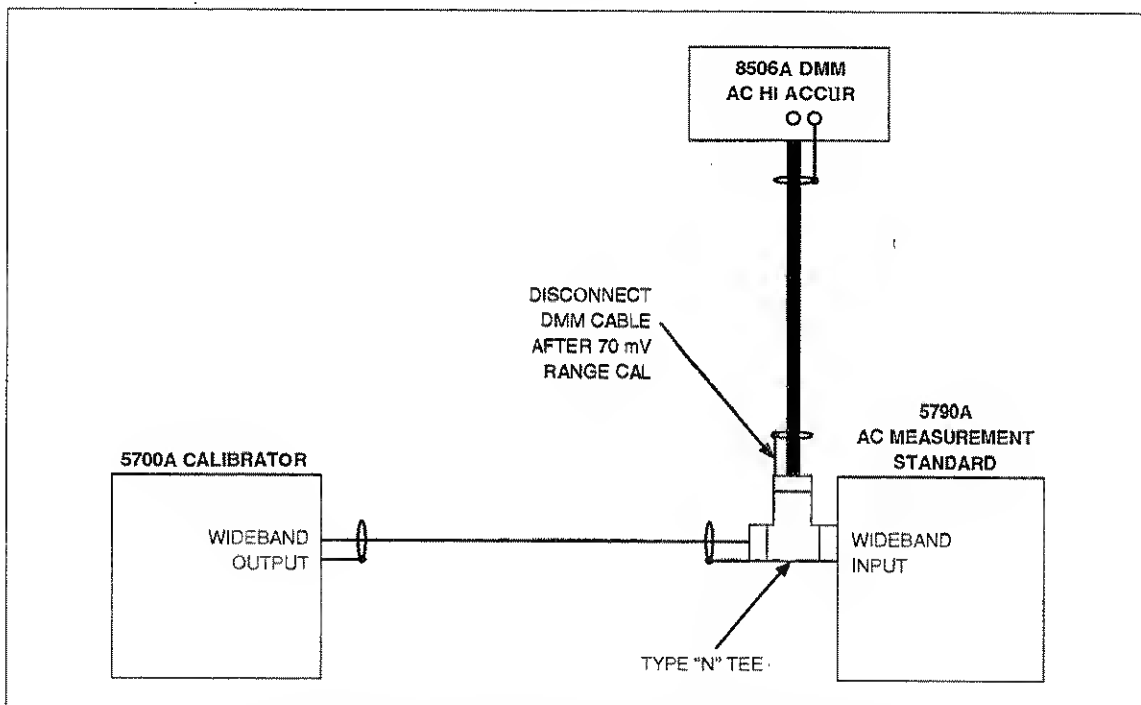

Figure 3-12. Gain Calibration Setup for 70 mV and Above
1. Connect the equipment as shown in Figure 3-12. Set the 8506A in the HI ACCUR mode.